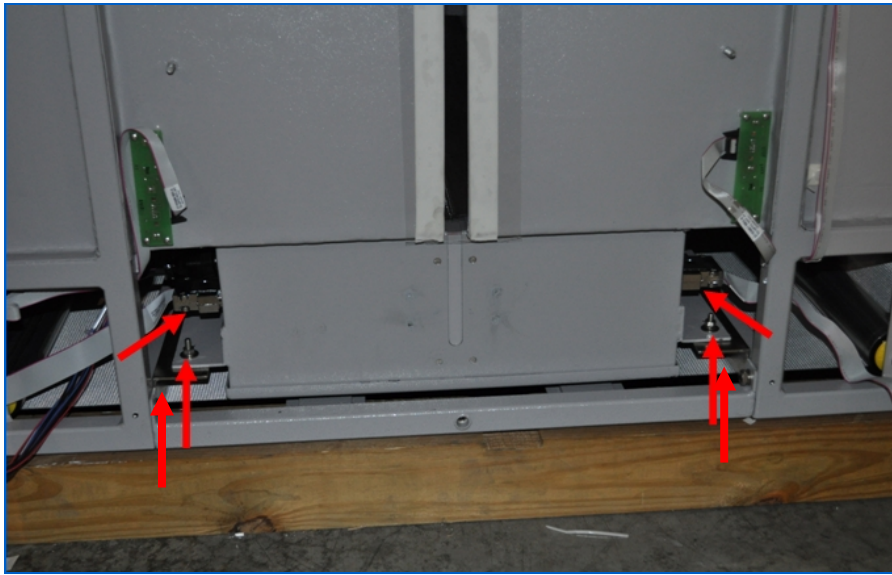
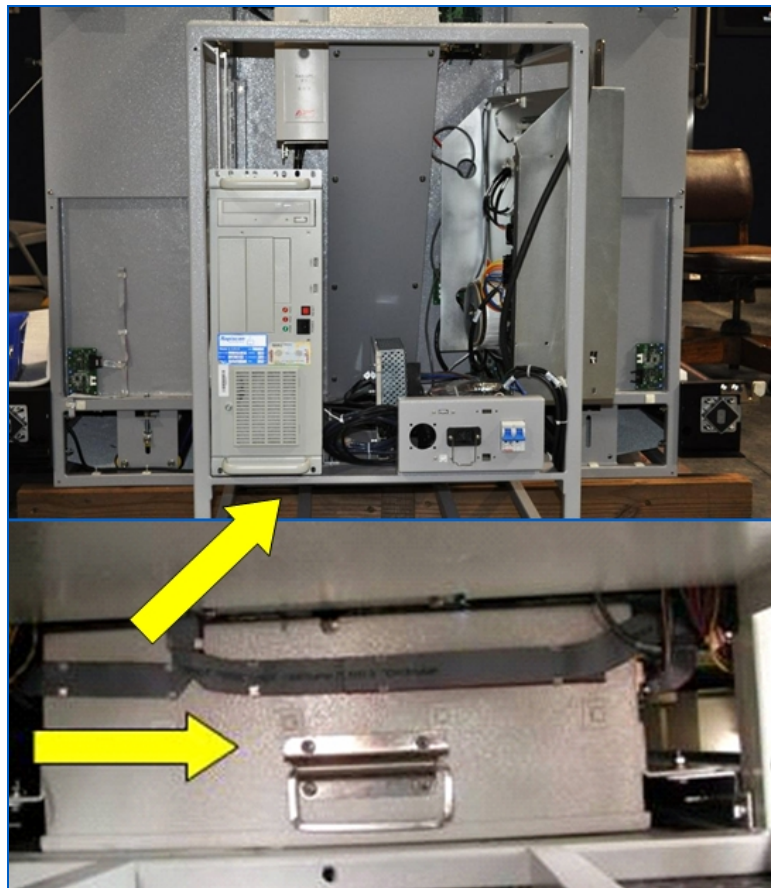

Figure 299: Back of Bottom Diode Array Box, Mounting Bolts and Signal Cables
Figure 300: Front of Bottom Diode Array Box (with handle)
1. Remove the mounting bolts for the bottom Diode Array Box – there are two mounting bolts on the back of the bottom Diode Array Box (Figure 299) and two on the front of the Diode Array Box (Figure 300).
2. Unplug the Signal Cables from the back of the Diode Array Box (Figure 299).
3. Grab the handle on the front of the Diode Array Box beneath the Electronics Cabinet (Figure 300) and carefully pull the lower Diode Array Box out from under the X-ray machine.